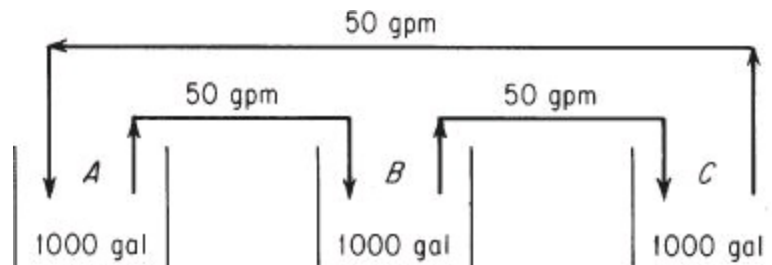

Figure P17.21
17.21. Tanks A , B , and C are each filled with 1000 gal of water. See Figure P17.21. Workers